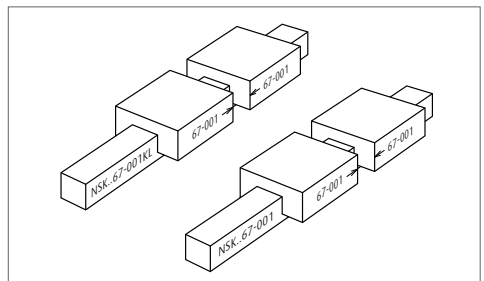

Fig. 30 When two rails have different reference number
- > When two or more rails of different reference number are used in a single set, the rails and slides have the same serial number. In this case, when slides are removed from the rail, it is unclear which rail each slide was previously installed on. When removing ball slides from the rail for an unavoidable reason (**Fig. 30**), sufficient precaution is required.